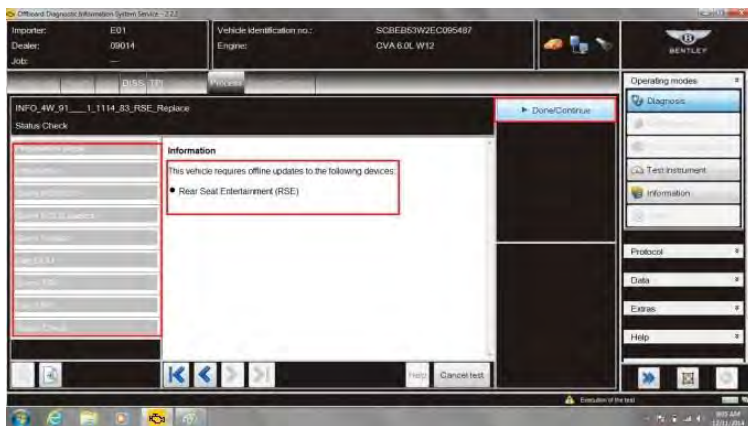

Figure 6
12. The component parts of the system will be checked the return screen will display the description of the parts requiring software, select Continue (see Figure 6). NOTE: If the Touch Screen Remote (TSR) is also displayed as requiring offline updates then you must carry out additional operations once you reach point B in this procedure